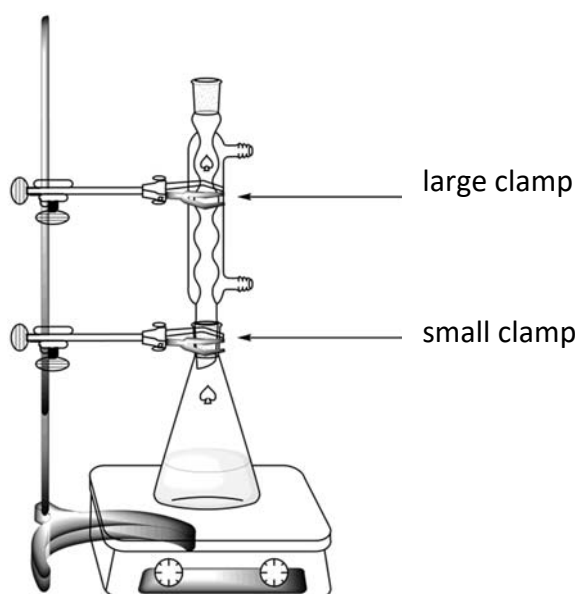

Figure 1. Setup for heating the reaction mixture under reflux
- Attach** the reflux condenser by loosening the large clamp and adjusting the ground joints (see Figure 1). **Raise** your HELP card. A lab assistant will come to turn on the water and set the hotplate.
2. **Perform** the recrystallisation of the crude product contained in the 50 mL ground-joint Erlenmeyer (conical) flask with the appropriate amount of this water/ethanol mixture, using the same setup as for the reflux heating (see Figure 1). **Raise** your HELP card. A lab assistant will come to turn on the water and set up the hotplate. **Add** the solvent through the top of the condenser.